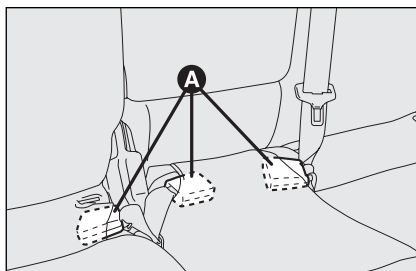

fig. 99
- for versions with rear sliding seat, fit seat belt buckles into the proper seats **A**-fig. 99;